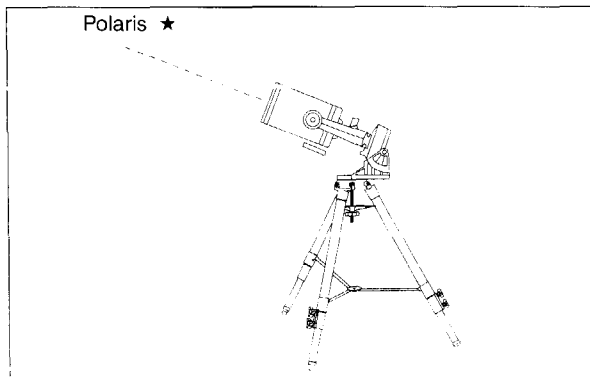

Fig. 20: Mount too low.
- a. If the star drifts South (or down), the telescope's polar axis is pointing too low (Fig. 20).